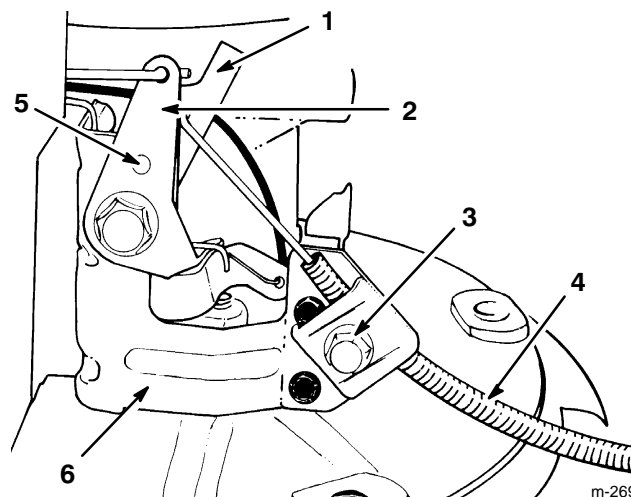

Figure 17
3. Loosen cable clamp screw until throttle cable slides (Fig. 17).
4. Check to see if holes in throttle bracket and choke lever are aligned (Fig. 17). If not, follow adjustment procedure in step 5.
5. **ADJUSTMENT**—A small diameter pin may be inserted into aligned holes to hold adjustment. Push throttle cable until throttle lever contacts choke lever (Fig. 17). Tighten cable clamp screw. Remove pin if used.